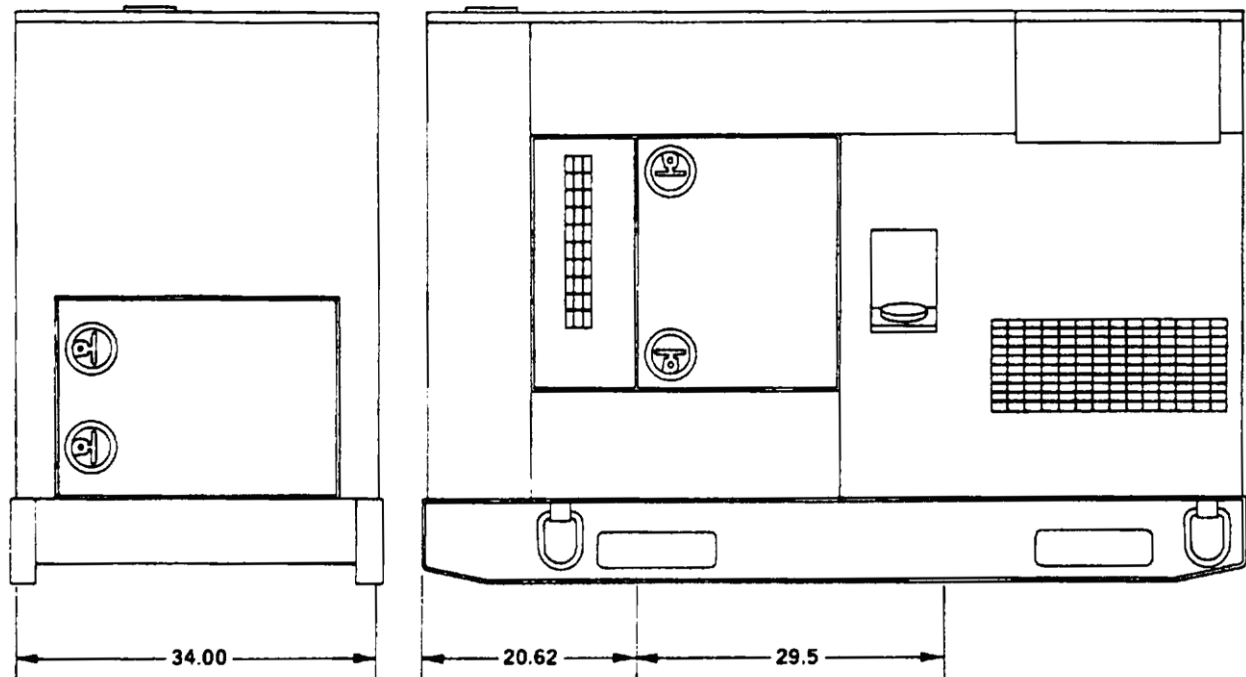

Figure 1. Base Mounting Measurements.
2. Check that radiator drain valve is closed (WP 0002, Figure 1).
1. Check that fuel drain valve is closed (WP 0002, Figure 1).
2. Open battery access door, open oil drain valve (WP 0002, Figure 1), and drain oil.
3. Refer to Figure 1 for base mounting measurements.